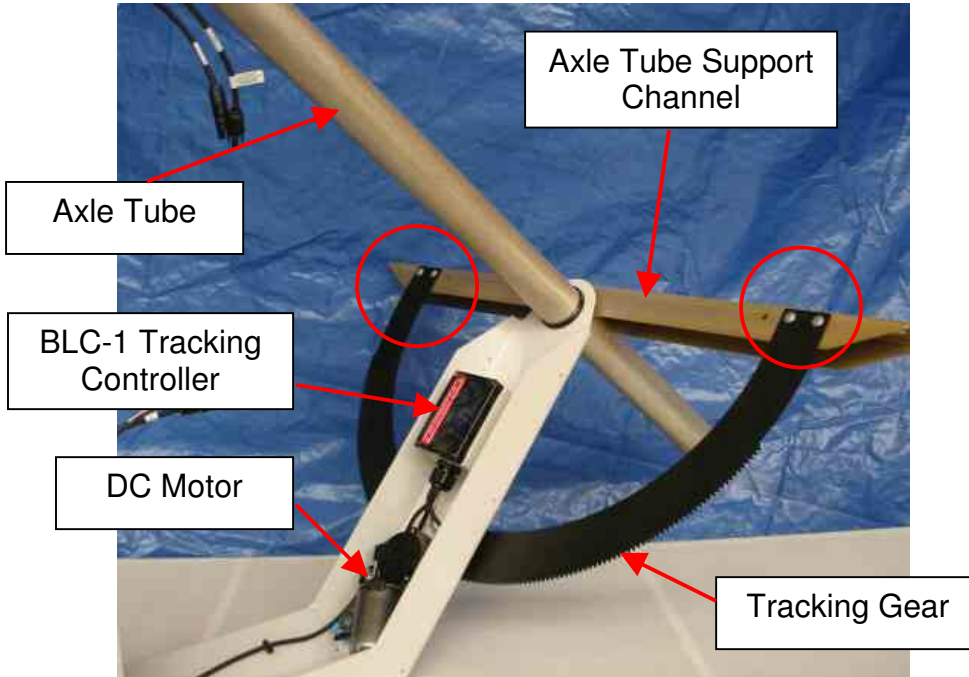

Figure 5
5. Attach the Tracking Gear to the Axle Tube Support Channel using the galvanized hardware from the previous step (1/4"-20 X 3/4" carriage bolts, lock washers, flat washers, nuts). See Figure 5.